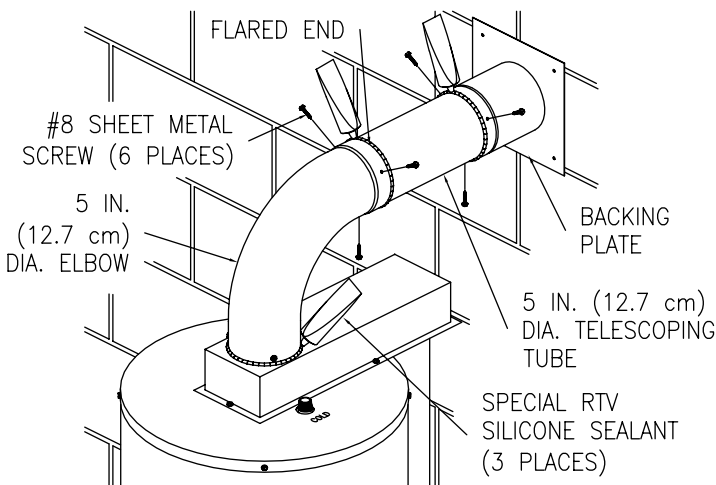

Figure 11
11. From inside the building, slide the backing plate over the six (6) inch (15.2 cm) diameter telescopic tube until it is flush with the wall. Adjust the length of the six (6) inch (15.2 cm) diameter telescopic tube and insert the end into the flared end of the six (6) inch (15.2 cm) diameter elbow one (1) inch (2.5 cm) (or until seated). Drill three (3) 1/8 inch (3.0 mm) diameter holes, 120° apart, through the six (6) inch (15.2 cm) diameter elbow into the six (6) inch (15.2 cm) diameter telescopic tube and through the tubes where the small and large sections overlap. Fasten with three (3) #8 sheet metal screws (supplied). Using the supplied special RTV silicone sealant, apply a sufficient amount to seal all joints (See Figure 11).